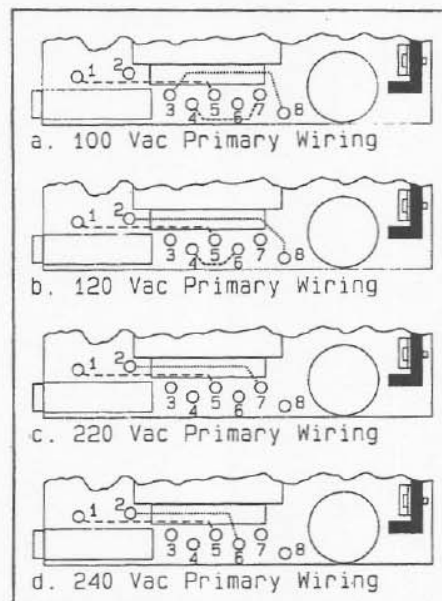

Figure 6. Primary wiring.
3. Locate the eight voltage select solder cups near the power transformer. Referring to Figure 6, reconnect the leads corresponding to the desired primary voltage.